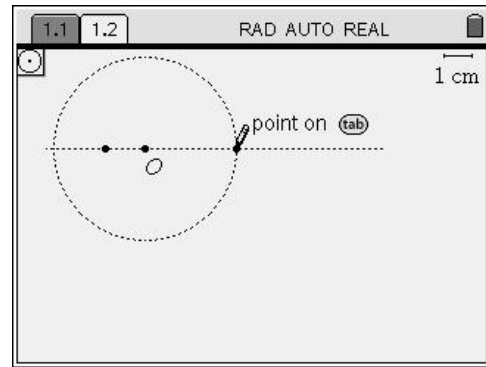

Figure 8
8. Next place the radius point on the line. Again to ensure the radius point is on the line the text should read, “point on”, and the line should be dashed. (Figure 8) Press enter and immediately label the point “X” by pressing CAPS X. Press esc to put the circle tool away.